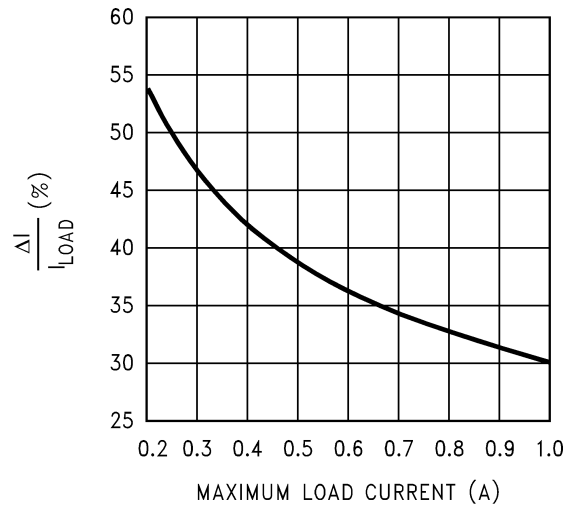

Figure 28. Current Ripple Ratio
4. The nomographs were generated by allowing a greater amount of percentage current ripple in the Inductor as the maximum rated load decreases (see Figure 28). This was done to permit the use of smaller inductors at light loads. However Figure 28 shows only the 'median' value of the current ripple. In reality there may be a great spread around this because the nomographs approximate the exact calculated inductance to standard available values. It is a good idea to refer to AN-1197 SNVA038 for detailed calculations if a certain maximum inductor current ripple is required for various possible reasons. Also consider the rather wide tolerance on the nominal inductance of commercial inductors.